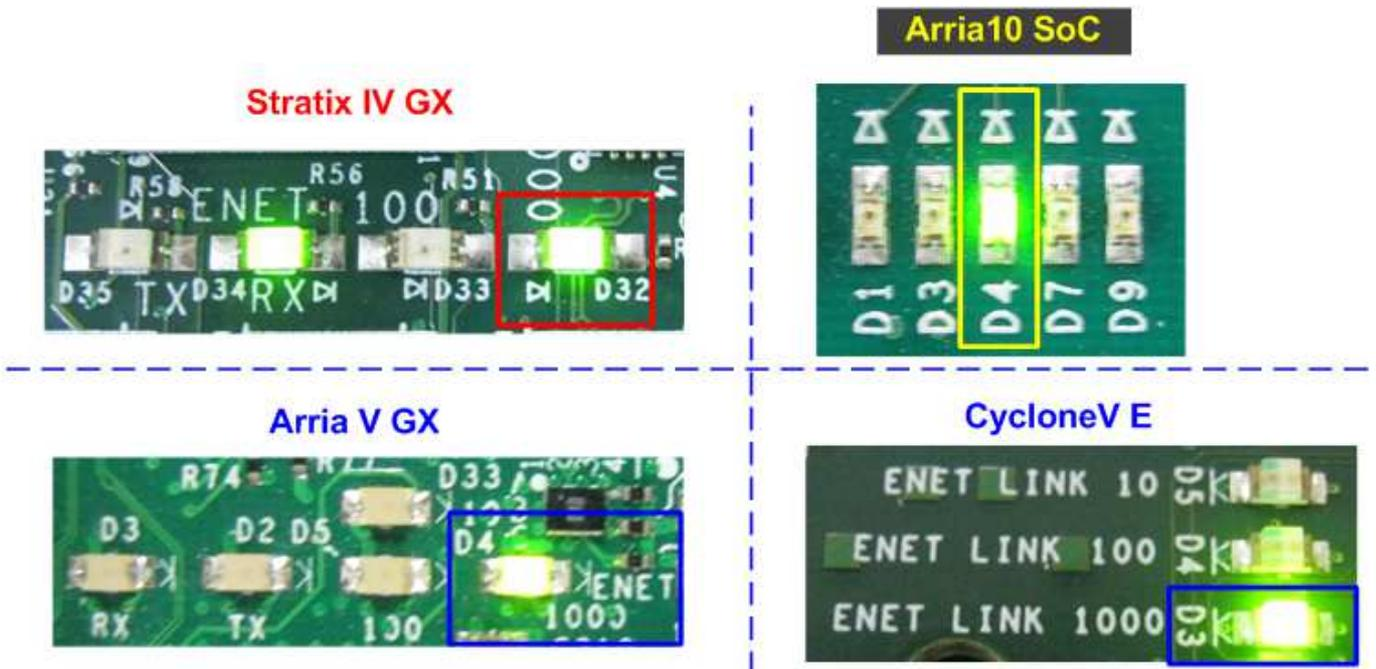

Figure 4-2 Ethernet1000 LED Status
- Check 1G link status LED of PHY chip must be ON, as shown in Figure 4-2.